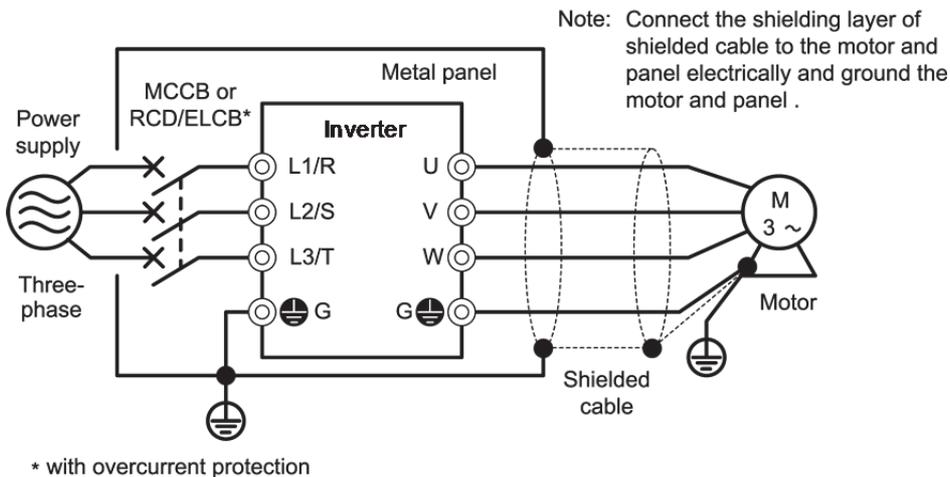

Figure G-2 Mounting the inverter in a Metal Panel
- (1) Mount the inverter and the filter on a grounded panel or metal plate. Use shielded wires for the motor cable and route the cable as short as possible. Firmly clamp the shields to the metal plate to ground them. Further, connect the shielding layers electrically to the grounding terminal of the motor.
- (2) For connection to inverter's control terminals and for connection of the RS-485 communication signal cable, use shielded wires. As with the motor connections, clamp the shields firmly to a grounded panel.
- (3) If noise from the inverter exceeds the permissible level, enclose the inverter and its peripherals within a metal panel as shown in Figure G-2.